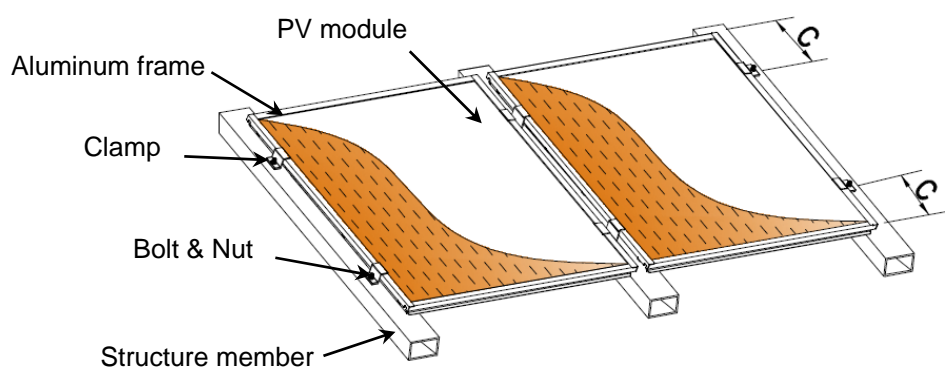
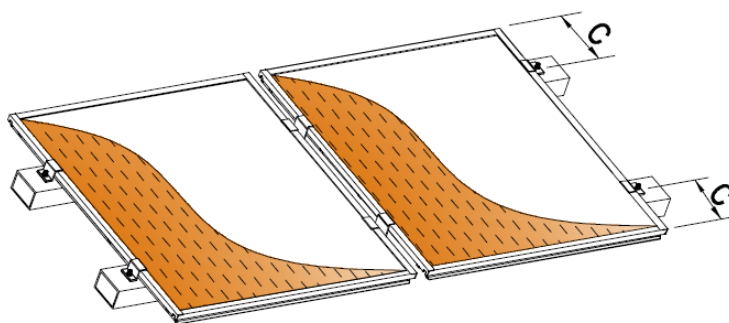

Fig. 6: Mounting structure - A
Fig. 7: Mounting structure - B
- The PV modules may be mounted by using clamps or fixing plates on long edge of PV module, which would be perpendicular (Fig. 6) or parallel to array racks (Fig. 7).
- i) The clamp position (C) is from the end of the module to the centerline of the clamp or fixing plate.
- ii) The clamp position (C) should be symmetrical at each side of PV module.